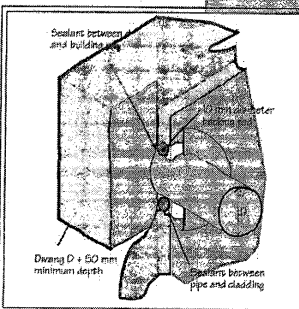

Figure 18. Weatherproofing for service penetration.
- (a) pass pipe or wiring penetrations through a neat fitting hole in a cladding (nog) on its side, or other timber (at least 50 mm wider than the pipe or wire diameter), fixed to the framing (Figure 18).